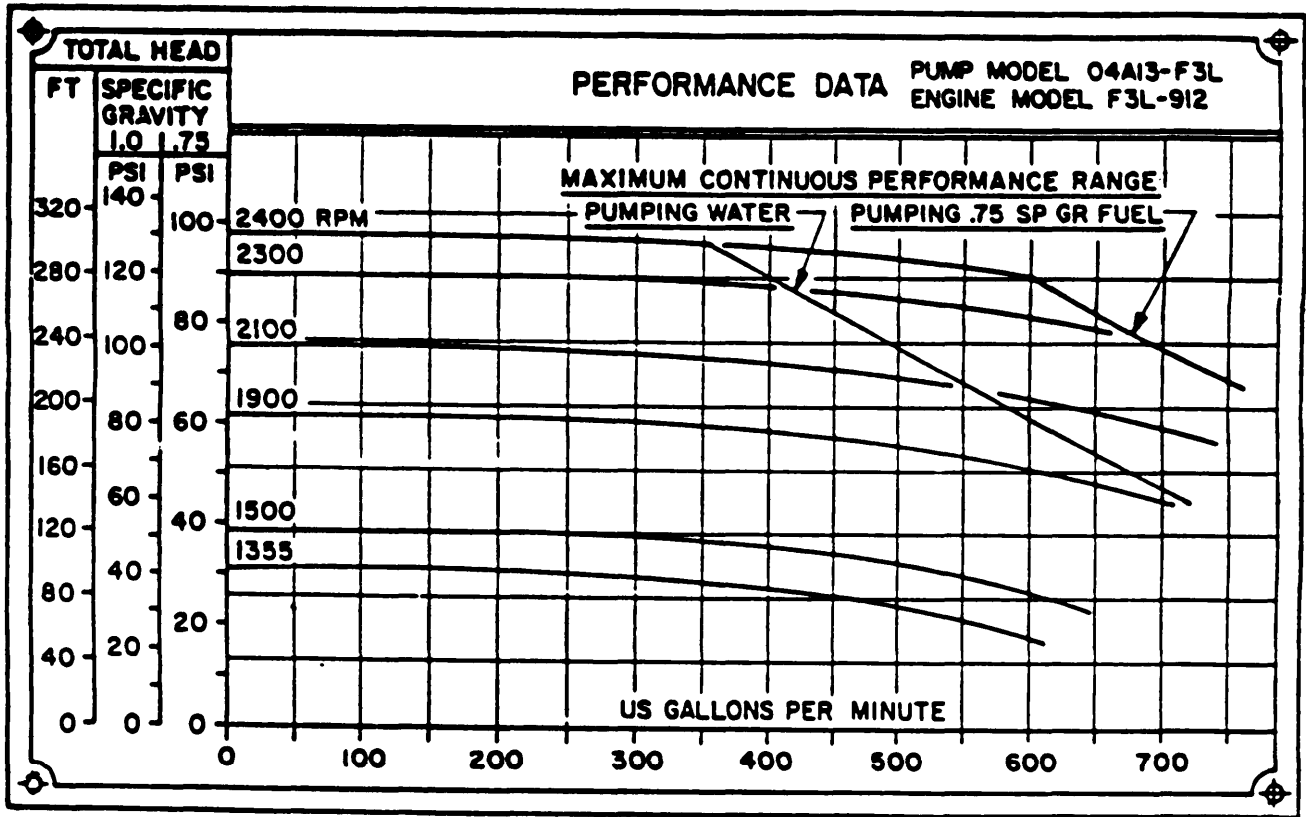

Figure 2-6. Performance Chart.
- a. Adjust pump speed to meet mission requirements. Refer to Figure 2-6.